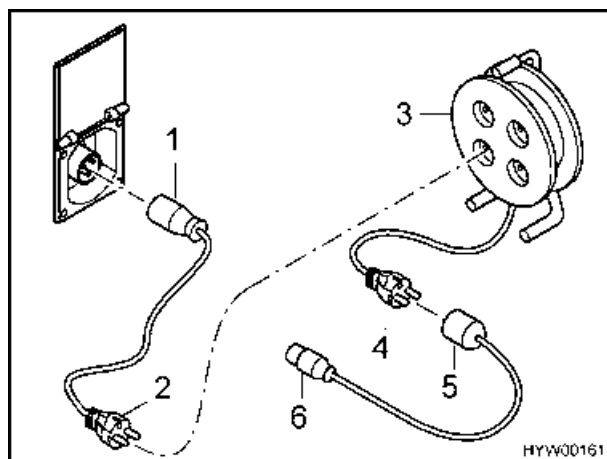

Fig. 60 Connection options for 240 V power connection
CEE 17 socket with earth contact (Fig. 60,1)
– plug with earth contact (Fig. 60,2).
Socket with earth contact (Fig. 60,3) – plug with earth contact (Fig. 60,4).
Socket with earth contact (Fig. 60,5) – CEE 17 plug with earth contact (Fig. 60,6).